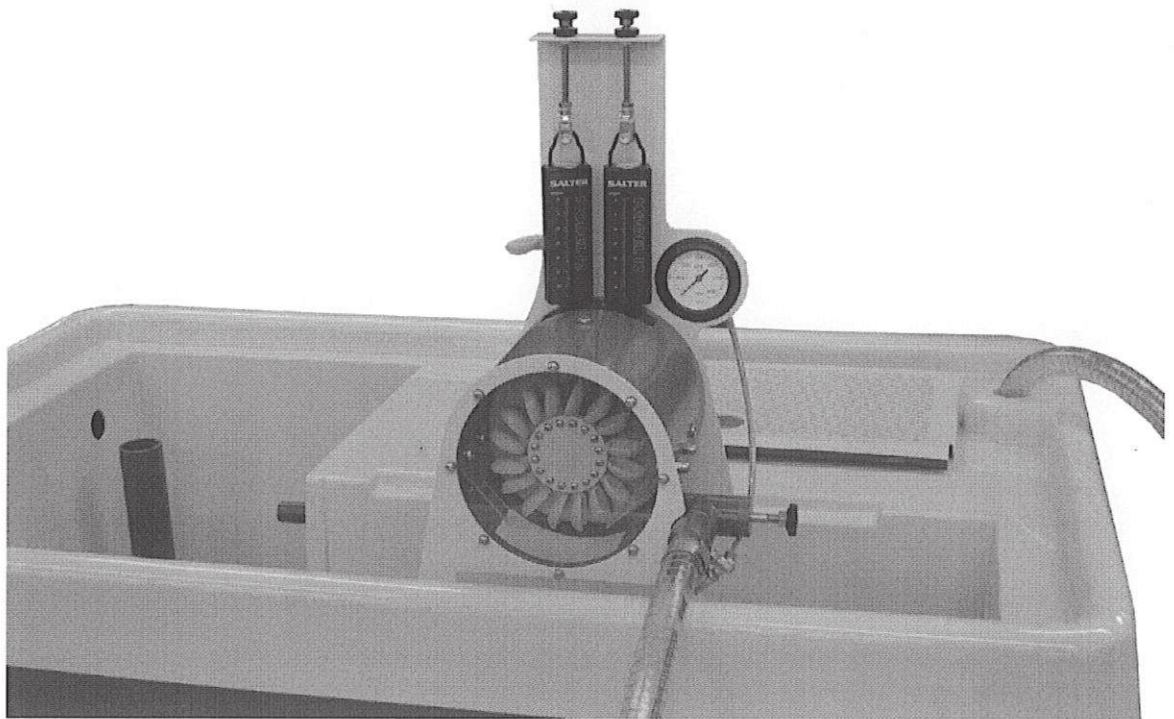

Figure 5 Put the Turbine onto the Top of the H1D Hydraulic Bench
1. Put the turbine onto the top of a Hydraulic Bench (H1d) so that its outlet is over the shallow reservoir part of the bench (see Figure 5).